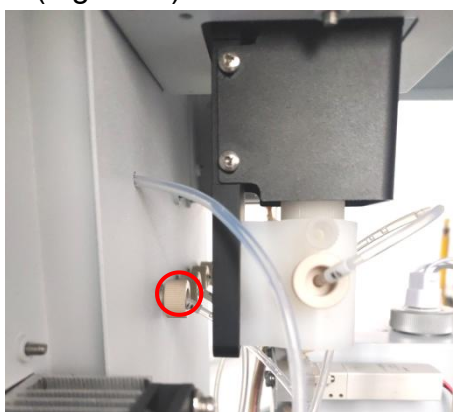

Fig. 6.30
1) Open the right cover of the instrument .Unscrew the liquid inlet connector of IC acid peristaltic pump pipe (Fig. 6.30).